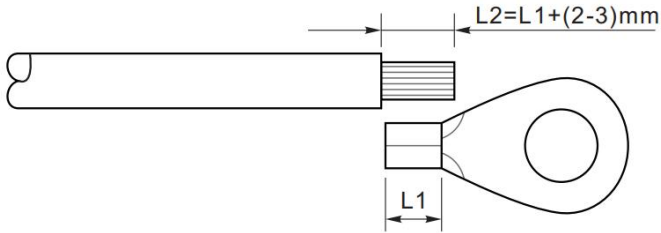

Figure 5-2 Grounding connection instruction (1)
**Step1:** Remove the insulation layer with an appropriate length using a wire stripper shown as figure 5-2) .